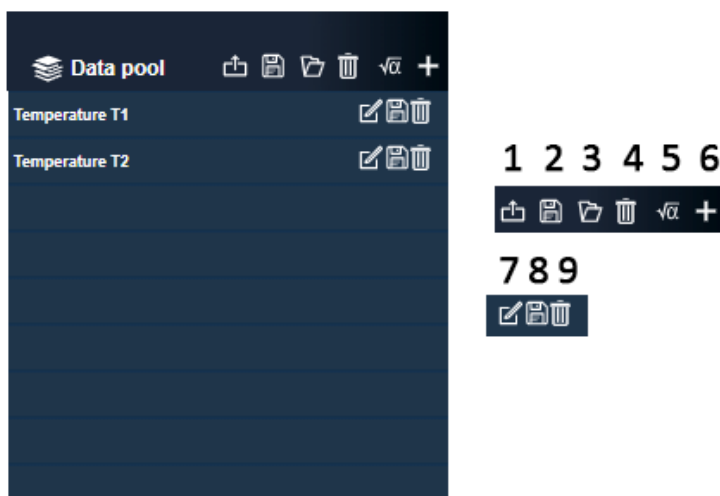

Figure 19: Data pool
In the data pool (Figure 19), you have the options to send your data to other devices (1), to export selected data sets (2) or individual data (8) as CVS files. To import data files, you can use the import button (3) or simply drag and drop your files into the data pool.